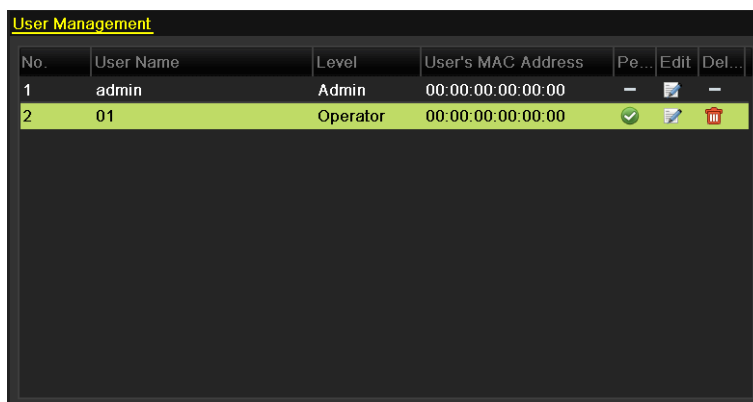

Figure 13. 6 Added User Listed in User Management Interface
4. Click the **OK** button to save the settings and go back to the User Management interface. The added new user will be displayed on the list, as shown in Figure 13. 6.